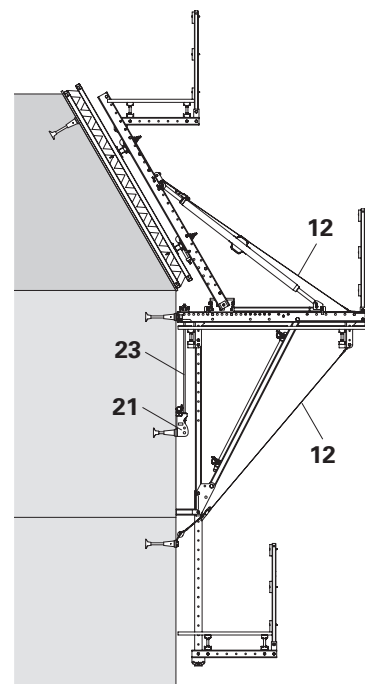

Fig. B6.02
- Install Tension Belt (12) for stabilising the system and additionally tension the Strongback (5) so that the Heavy Duty Spindle (8) is free of play.
- Anchor the vertical Tie Rod DW 20 (23) with Bracing Shoe SCS M36/DW 20 (21) for transferring the higher lift-off forces. (Fig. B6.02)